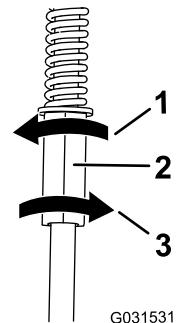

Figure 64
4. Rotate the left control rod in quarter-turn increments until the machine tracks straight (Figure 64).